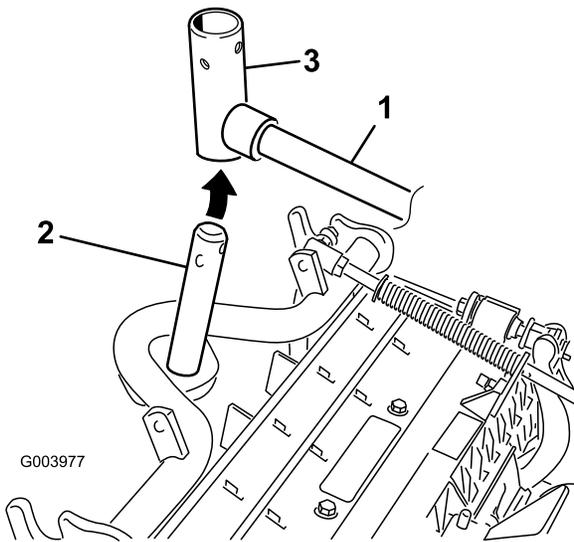

Figure 8
7. For the front cutting units, slide a cutting unit under the lift arm while inserting the carrier frame shaft up into the lift arm pivot yoke (Figure 8).
- B. Insert the lift arm yoke onto the carrier frame shaft (Figure 8).